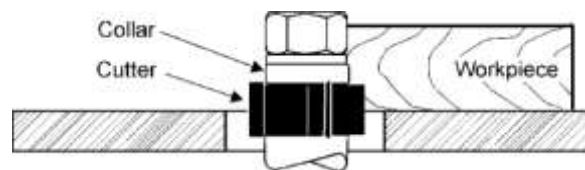

Fig. 38
2. When the collar is used above the cutter, as shown in Fig. 38, the cut cannot be seen. But this method offers an advantage in that the cut is not affected by slight variations in the thickness of the stock. Also, accidental lifting of the workpiece will not gouge the workpiece; simply repeat the operation to correct the mistake.